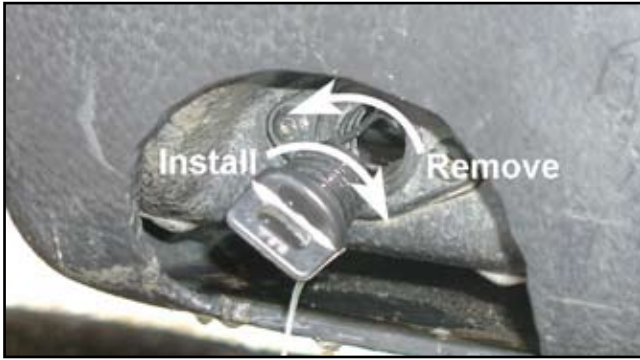

Figure 5-2. Removing and Installing the drain plug.
1. Drain Plugs are accessible from the outside of the vehicle. Make sure both drain plugs in the rear of the lower body (Figure 5-1) are in place and properly tightened. To install, locate the drain plugs at the rear of the vehicle and thread each drain plug in a clockwise direction into the plug fitting ensuring a snug fit. Check the O-ring on drain plug periodically. When removed, each drain plug remains attached to the hole opening to prevent loss or misplacement of the plug while the vehicle is draining. (Figure 5-2).